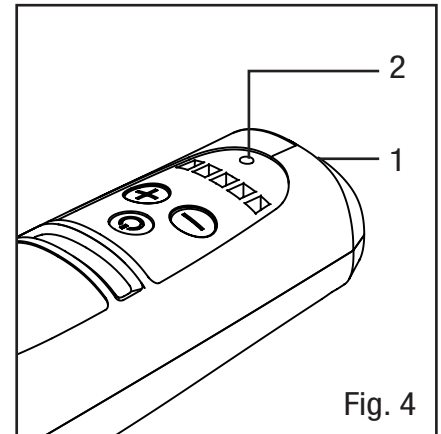

Fig. 4
CHARGING THE TOOL (FIG. 4)
1. Charge your tool in a well-ventilated area and away from any flammable materials. Connect the power plug of the charger to a matching wall receptacle (AC 100-240V, 50/60Hz). Insert the other end of the charger into the charging port on the back of the rotary tool (Fig. 4 - 1).
2. The red battery charging light (Fig. 4 - 2) on the tool's control panel will turn red to show that the tool is charging. Charge for 2-3 hours, or until indicator light turns yellow, and your tool is ready for use.